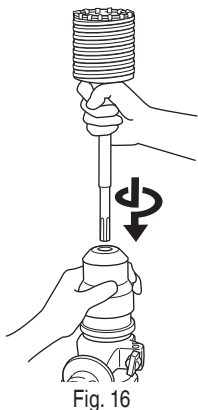

Fig. 16
- (2) Mount the core bit shank to the Rotary Hammer. (Fig. 16)